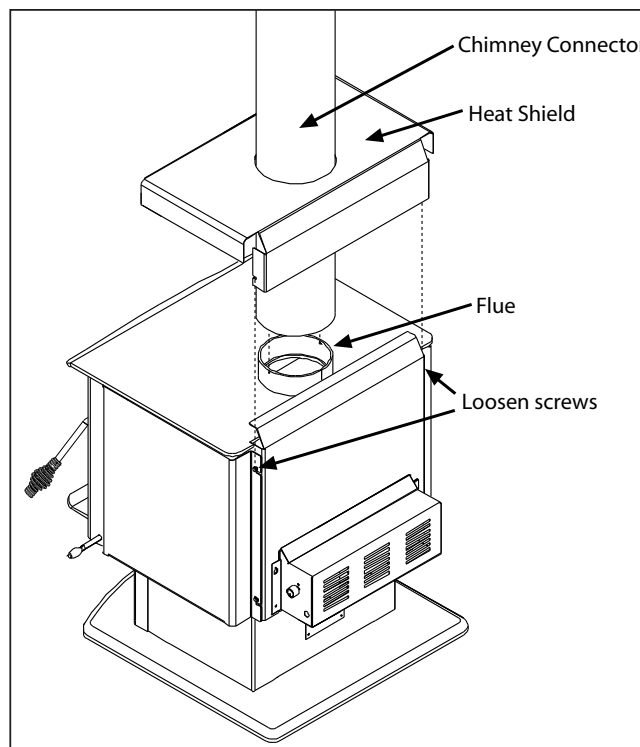

**Figure 16: Installing Legs and Ash Pan Assembly.**
**Table 5: Examples of Hearth Pad Sizing Using Clearances From Tables 3 & 4 (refer to Figures 16 & 17).**
**Table 6: Examples of Parallel Installation Using Clearances From Tables 3 & 4 (refer to Figure 16).**